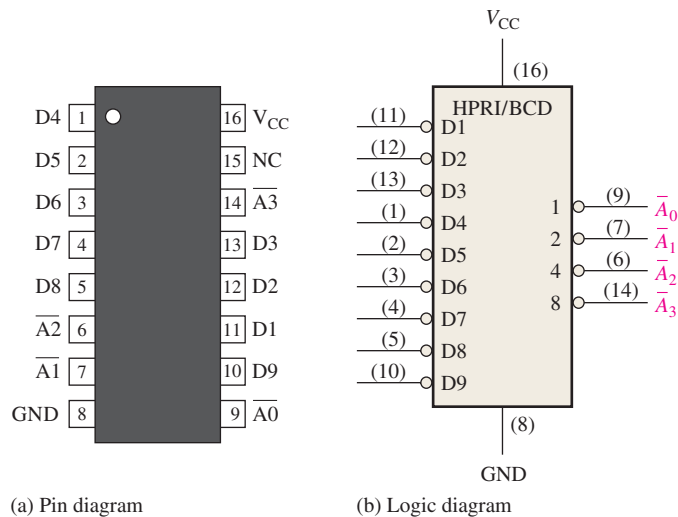

FIGURE 6–38 The 74HC147 decimal-to-BCD encoder (HPRI means highest value input has priority).
Now let's implement the logic circuitry required for encoding each decimal digit to a BCD code by using the logic expressions just developed. It is simply a matter of ORING the appropriate decimal digit input lines to form each BCD output. The basic encoder logic resulting from these expressions is shown in Figure 6–37.
The basic operation of the circuit in Figure 6–37 is as follows: When a HIGH appears on *one* of the decimal digit input lines, the appropriate levels occur on the four BCD output lines. For instance, if input line 9 is HIGH (assuming all other input lines are LOW), this condition will produce a HIGH on outputs A_0 and A_3 and LOWs on outputs A_1 and A_2 , which is the BCD code (1001) for decimal 9.
Fixed-Function Device The 74HC147 is a priority encoder with active-LOW inputs (0) for decimal digits 1 through 9 and active-LOW BCD outputs as indicated in the logic symbol in Figure 6–38. A BCD zero output is represented when none of the inputs is active. The device pin numbers are in parentheses.
Programmable Logic Device (PLD) The logic of the decimal-to-BCD encoder shown in Figure 6–38 can be described in VHDL for implementation in a PLD. The data flow approach is used in this case.